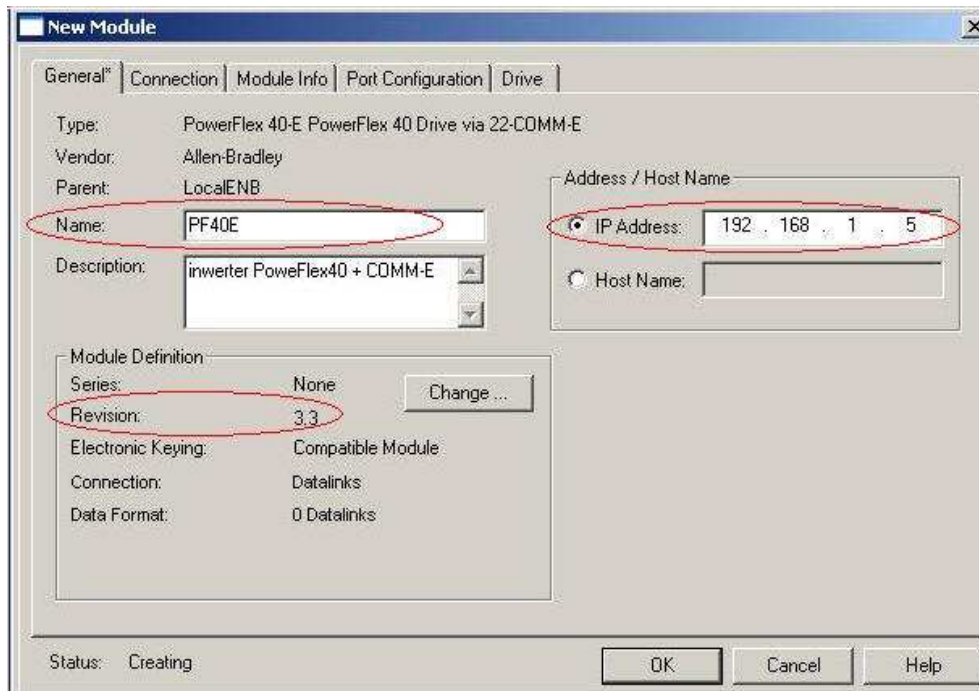

Fig. 22 The New Module properties window
- Select **PowerFlex 40-E** from the list and click the **OK** button. The **New Module** properties window will appear (Fig. 22). The following parameters should be entered: